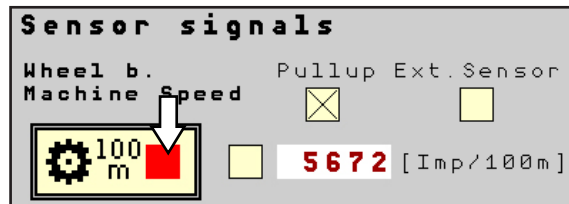

Fig. 80: Determination of the pulse rate is active
- Stop at the end of the 100m and press the 100m soft key again (see Fig. 80).